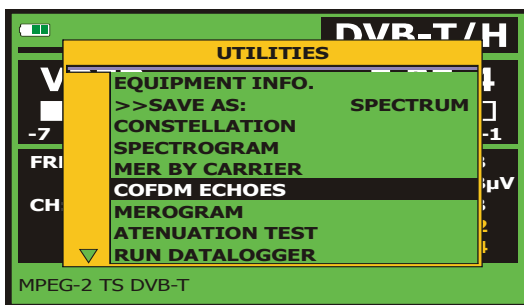

Figure 54.-. UTILITIES Menu.
2. Select the option **COFDM ECHOES** (Figure 54.-).